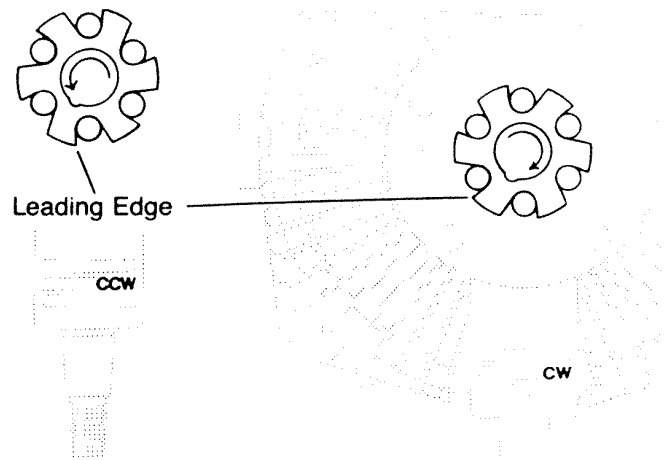

Fig. 48
**Important:** For correct carrier rotation the leading edge of carrier must rotate in the same direction as the input shaft. Install as shown in Figure 48.